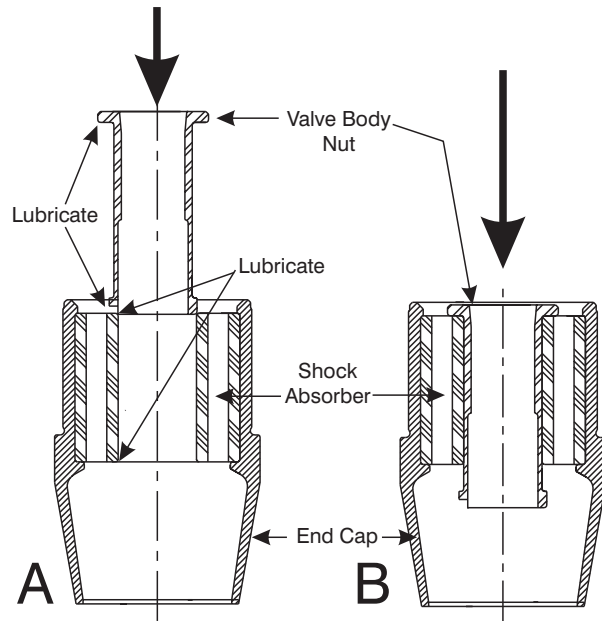

Figure 9-2. Press the Valve Body Nut into the Shock Absorber.
5. Before installing the Valve Body Nut (14), refer to Figure 9-2, and lubricate:
6. Center the Valve Body Nut (14) over the bore of the shock absorber as shown in Figure 9-2-A.
7. Center the press plunger or a pusher bar over the Valve Body Nut (7).
8. Press the Valve Body Nut (7) into the Shock Absorber (8) until the shoulder of the Valve Body Nut seats against the Shock Absorber, as shown in Figure 9-2-B.